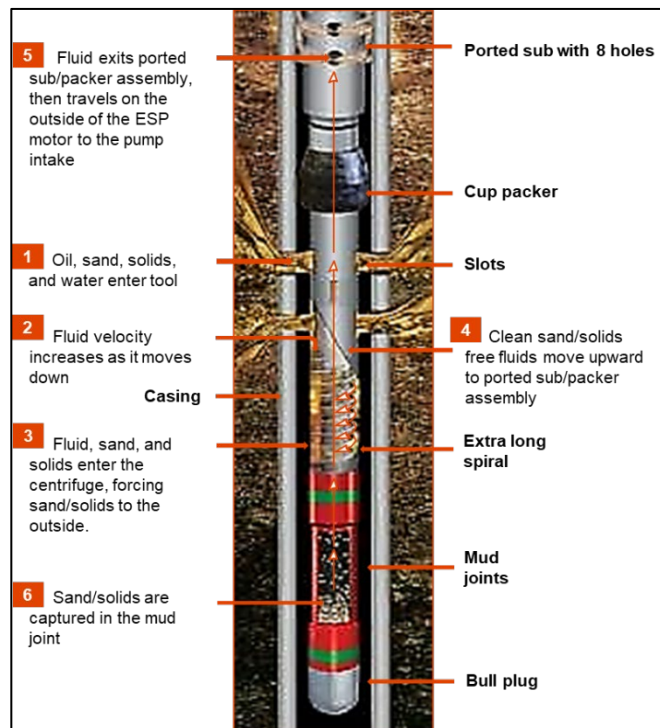

Figure 12- Desander operation
As we can see in the Figure 12, well fluids and solids enter the tool thru the slots bellow the cup packer (1), the fluid velocity increases, using cyclonic motion as it moves down (2), thanks to the centrifugal forces (3), solids will fall to be collected by the mud joints
(6), clean fluids will move upward to the ported assembly (4) above the cup packer to later enter the pump (5);